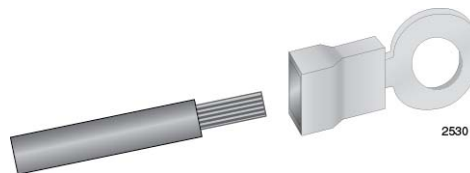

Figure 134. Attaching the Stranded Grounding Wire to the Grounding Terminal
2. Insert the grounding wire into the grounding terminal provided with the power supply and use a crimping tool to secure it to the grounding terminal. See Figure 134.